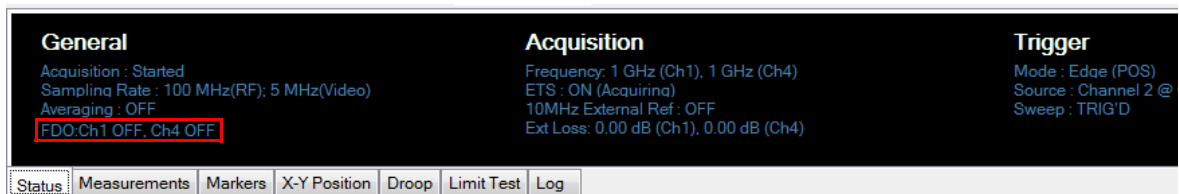

Figure 2-77 FDO status in status view
- 7 The FDO status is displayed in the Status view as shown in Figure 2-77. For more information on the Status view, refer to “Status view” on page 130.